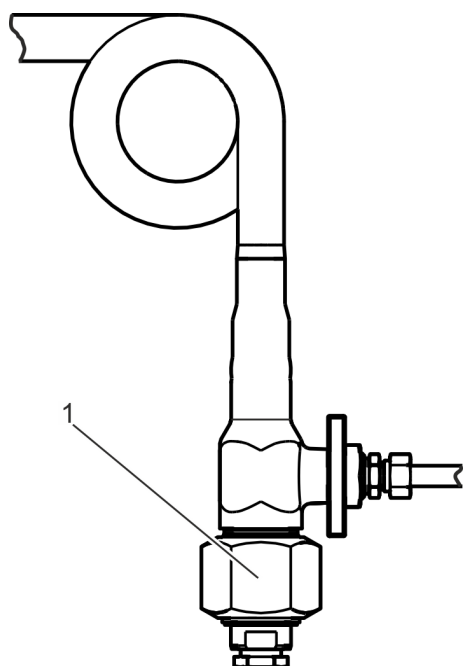

Fig. 17: Unscrewing the union nut
Unscrew the union nut (Fig. 17/1) by approx. 5 turns in an anticlockwise direction using a size 60 spanner.
8. → Unscrew the union nut (Fig. 17/1) completely.